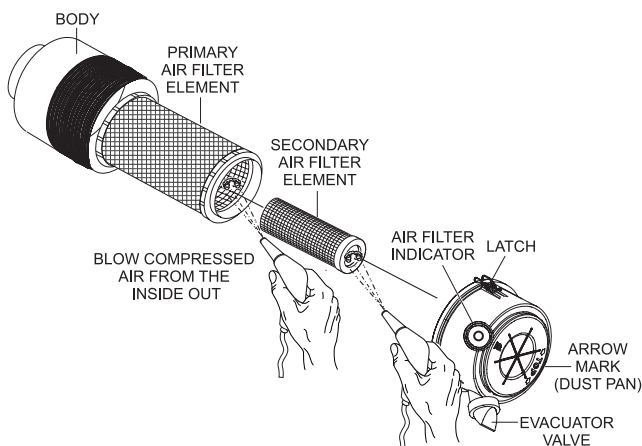

Figure 61. Engine Air Cleaner
This Volvo diesel engine is equipped with a replaceable, high-density, paper air cleaner element (Figure 61). The air cleaner is also equipped with an inner (secondary) element that is used as a backup filter should the primary element become damaged. Check the air cleaner daily or before starting the engine. Replace the air cleaner as needed.
1. Release the latches that secure the cover to the air cleaner body (Figure 61).
2. Remove the **air cleaner cover** (Figure 61) and set it aside.
3. Remove both the primary and secondary air cleaner elements (Figure 61).
5. To clean the **primary element** (paper air filter) as shown in Figure 61, tap the filter element several times on a hard surface to remove dirt, or blow compressed air, not to exceed 30 psi (207 kPa, 2.1 kgf/cm²), through the filter element from the inside out.
8. Clean the inside of the **air cleaner body** (Figure 61).